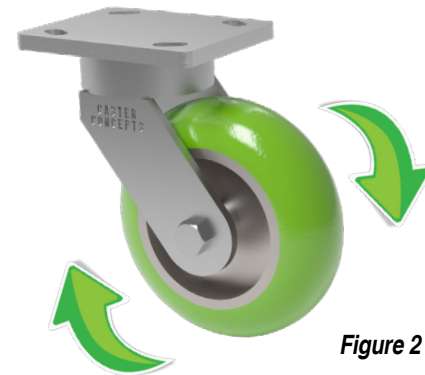

Figure 2
2. Rotate the wheel on the caster as shown in Figure 2